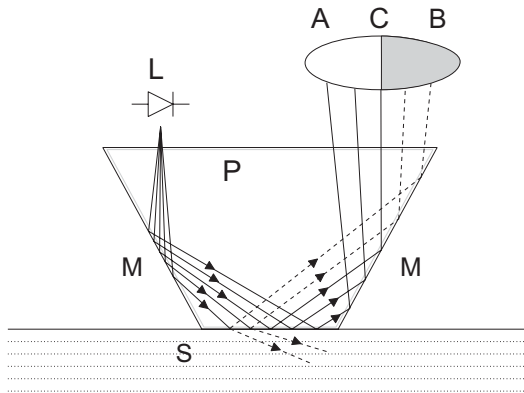

Figure 10.1 Refractometer principle
The K-Patents inline refractometer determines the refractive index n_D of the process solution. It measures the critical angle of refraction using a yellow LED light source with the same wavelength (589 nm) as the sodium D line (hence n_D). Light from the light source (L) in Figure 10.1 is directed to the interface between the prism (P) and the process medium (S). Two of the prism surfaces (M) act as mirrors bending the light rays so that they meet the interface at different angles.